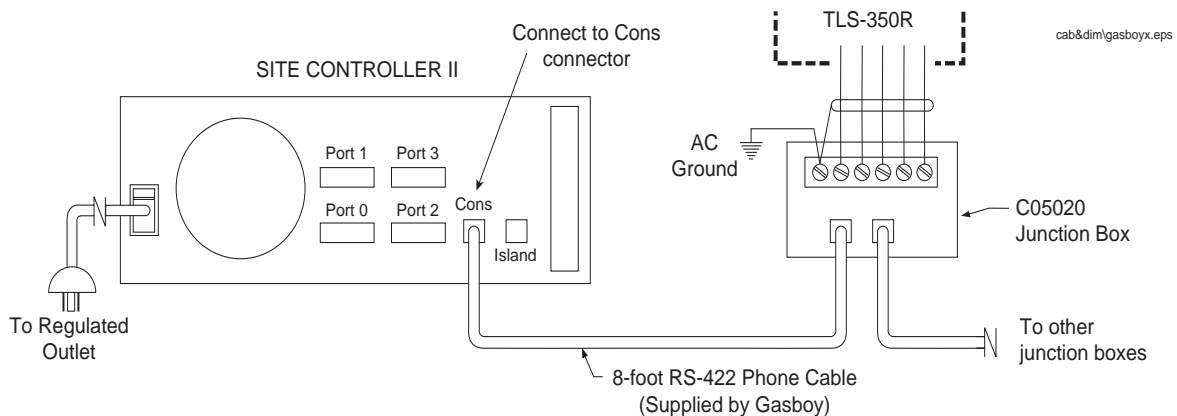

Figure 8. Connecting Site Controller to Junction Box - w/BIR
- Connect the CFN junction box to the Cons (console) connector on the rear panel of the Site Controller (see Figure 8). Do not use the Island Loop when BIR is enabled